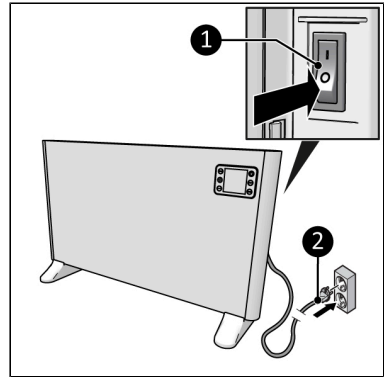

Figure 15.
2. Make sure the ON/OFF switch is in the OFF position (Figure 15, pos. 1).
3. Place the power plug (Figure 15, pos. 2) into an earthed wall socket that is easily accessible. Use an earthed wall socket with a minimum power of 2500 Watt.